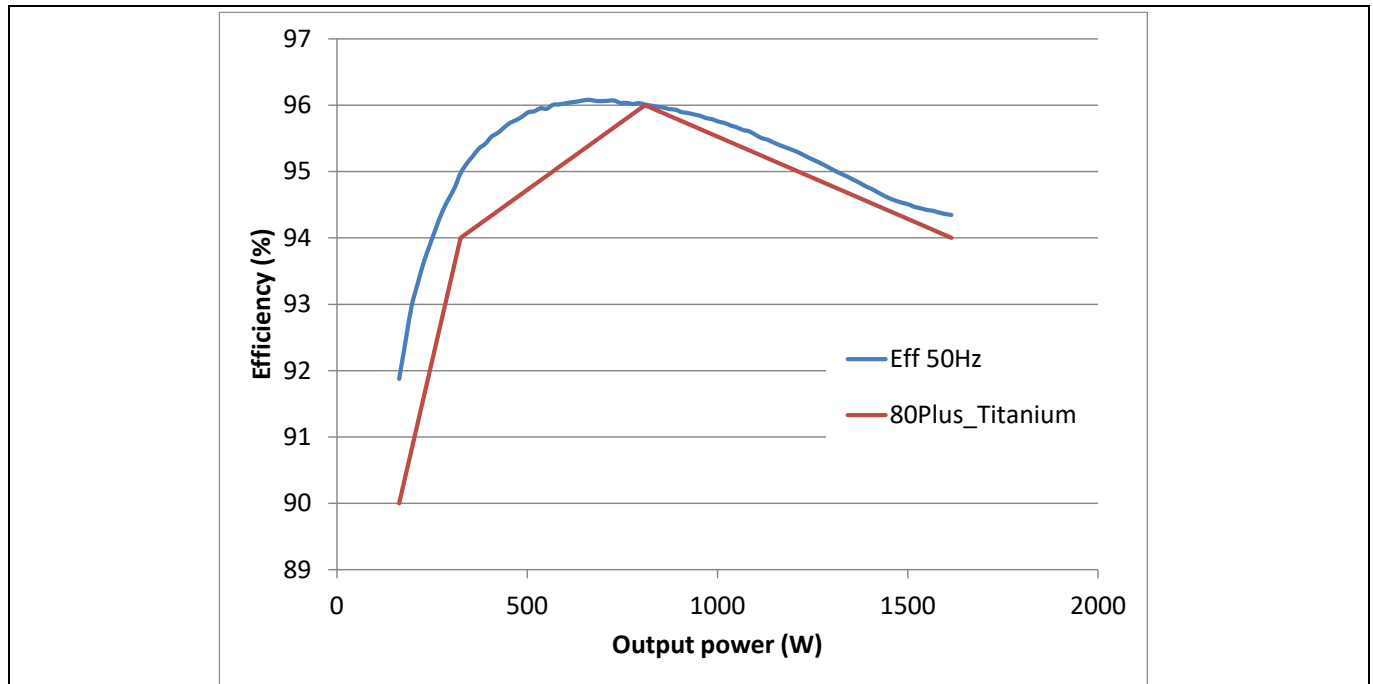

Figure 8 Measured efficiency at 230 V 50 Hz input voltage
In this chapter, the steady-state waveforms are presented together with the efficiency and the Power Factor (PF) and THD achieved in the 1600 W server PSU presented in this application note. The PSU operates only in high-line (from 176 V to 265 V line voltage) with a nominal input voltage of 230 Vrms. Therefore, the efficiency is presented for this nominal voltage. As shown in Figure 8, the Infineon 1600 W PSU with TSC CoolMOS™ CFD7 and G7 and CoolSiC™ G6 achieves Titanium efficiency.